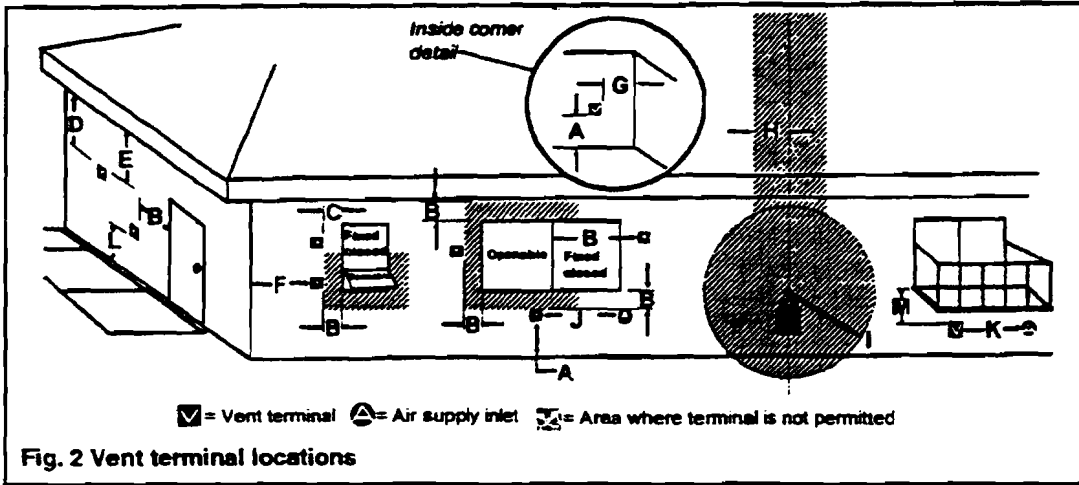

Fig. 2 Vent terminal locations
- 3.2.5 This direct vent appliance is designed to operate when an undisturbed air flow hits the outside vent terminal from any direction. The minimum clearances from this terminal which must be maintained are shown in figure 2. Any reduction in these clearances could result in a disruption of the air flow or a safety hazard. Local codes or regulations may require greater clearances.